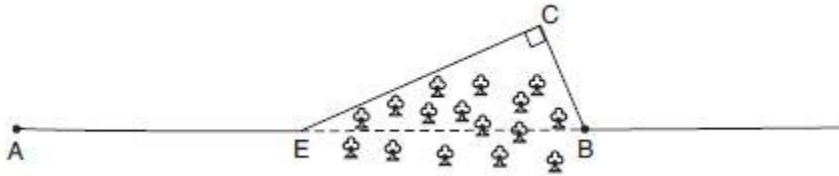

Fig. 12.20. Obstacle to ranging
- (b) Both ends of the line may not be visible from intermediate points on the line, but may be visible from a point slightly away from the line. Intervening trees and bushes are the examples of such obstacles. This obstacle to chaining may be overcome by measuring along a random line as shown in Fig. 12.20. In this case required length